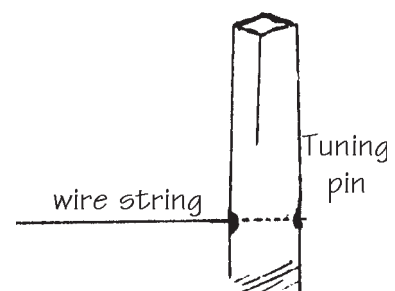

FIG. 15B
B. Pull the end of wire back and insert it into the tuning pin so it just barely shows through the other side of the pin, as shown. (fig. 15B)